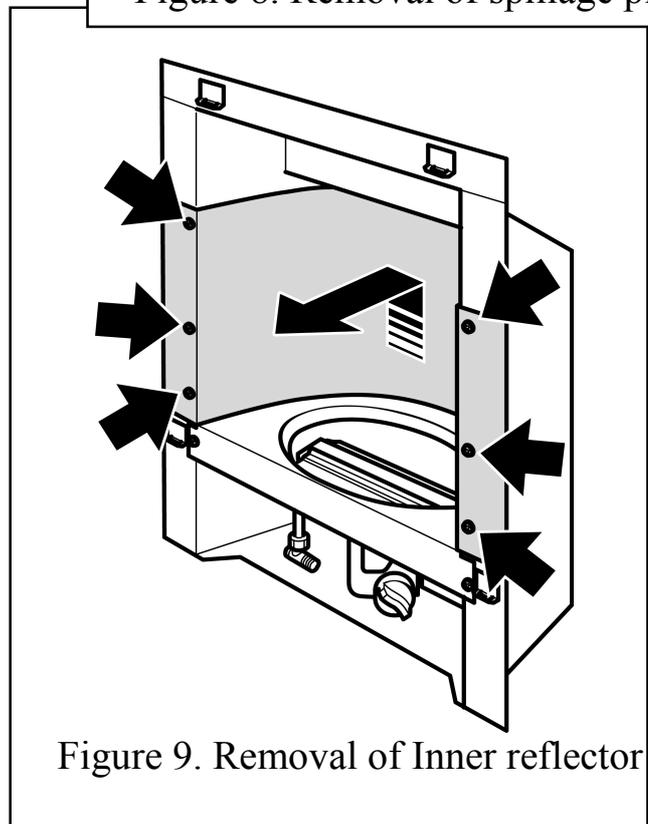

Figure 9. Removal of Inner reflector
3. Remove the six screws from the side of the inner reflector (See figure 9).
4. Carefully lift the inner reflector and pull forward to remove. **Be careful not to scratch the top surface of the burner cover (See figure 9). The reflector may 'spring' a little. For this reason it is important to hold the edges firmly when removing.**